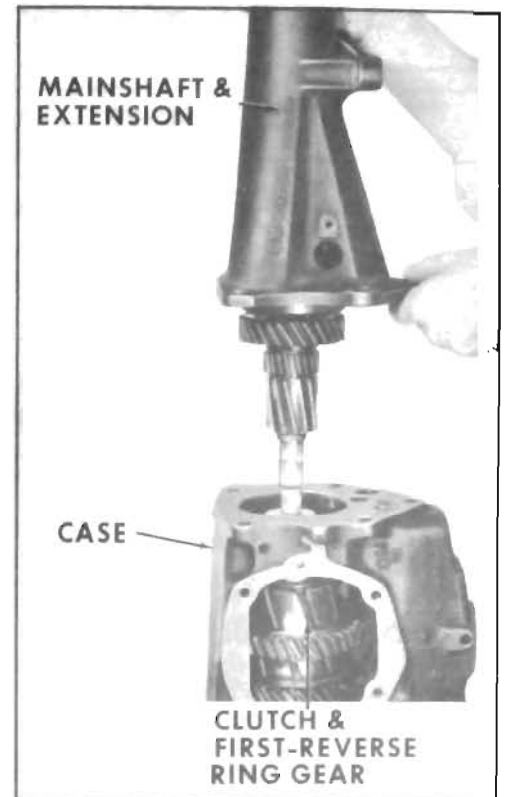

Figure 4-33—Mainshaft and Extension Installation
18. Align lugs on synchronizer rings with slot in mainshaft so that the lugs slide in slots on gear. Be sure that the clutch gear roller bearings are still in position. Push the shaft into the clutch sleeve until the extension is tight against the case. See Figure 4-33. Install bolts and lock washers. Torque to